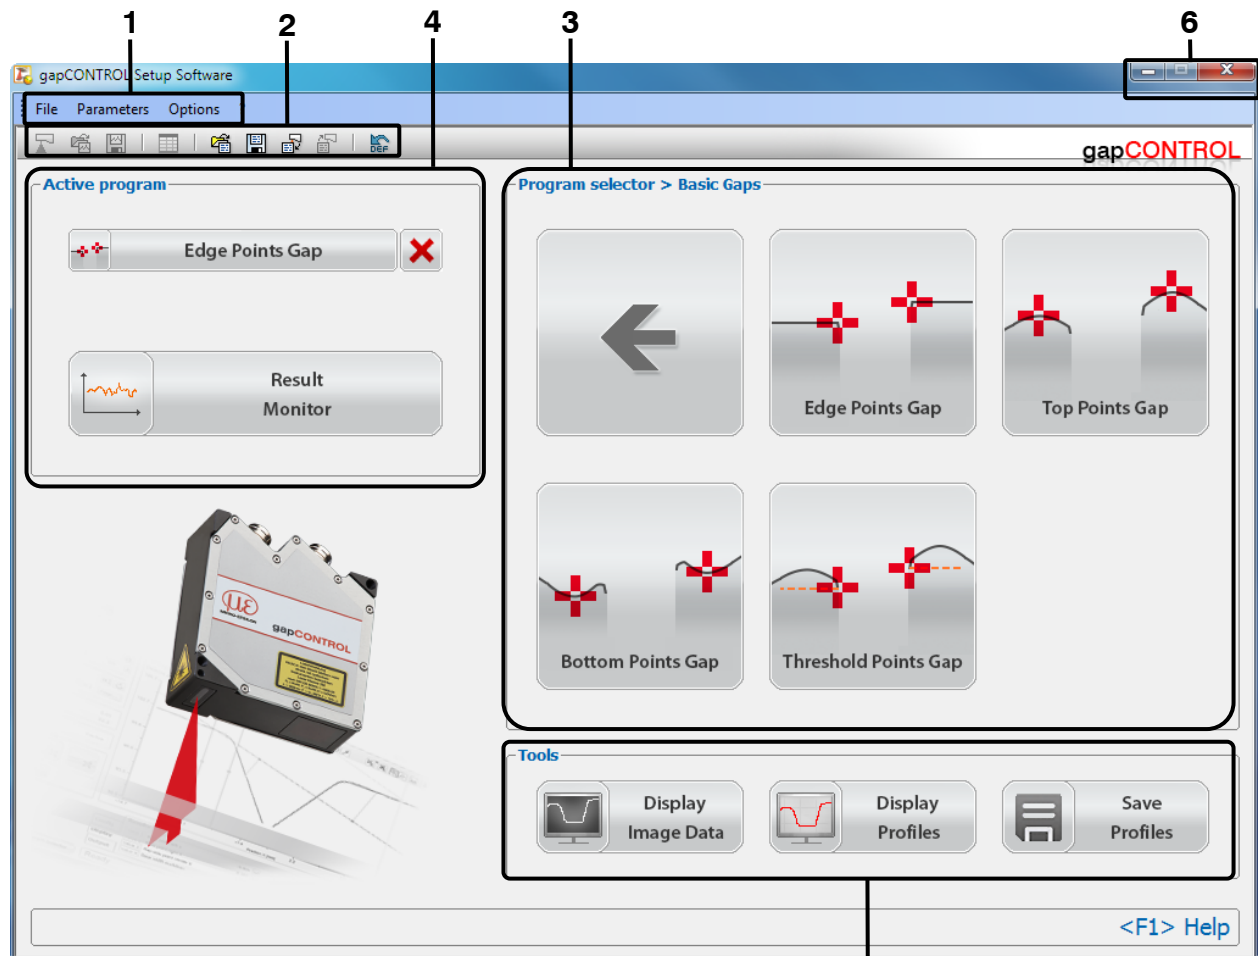

Fig. 3.1: Main View
- In the "Program selector" input field (see Fig. 3.1) select the desired measuring program for your measurement task. The selected program is shown in the "Active program" input field.